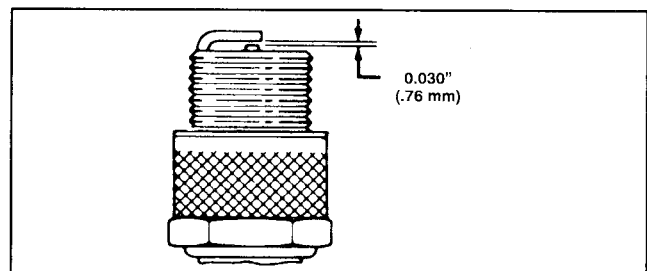

Figure 15
3. Set air gap at 0.030" (0.76 mm) (Fig. 15). Install correctly gapped spark plug and gasket seal. Tighten plug firmly to 15 ft-lb (20 N·m).